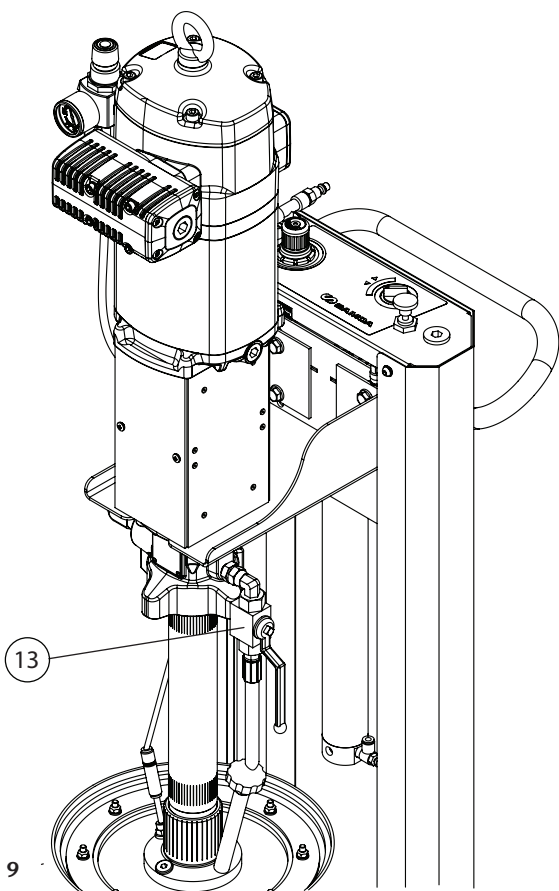

Fig. 9
- Open the bleed air valve (13). The pump can now expel any air trapped in (Fig. 9).
- Close the pump air bleed valve (13) as soon as the material trapped air is pumped out of the valve (Fig. 9).